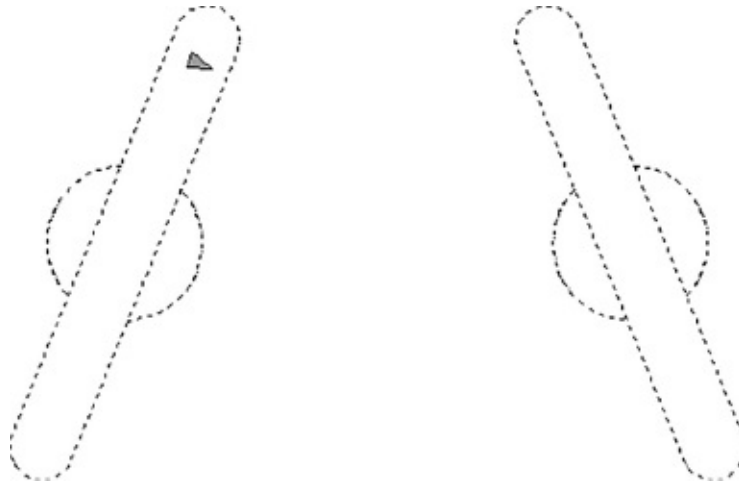

FIGURE 17.33 The gates moving in opposite directions
6. Type 22 ↵. Now the two parts rotate in opposite directions (see Figure 17.33).